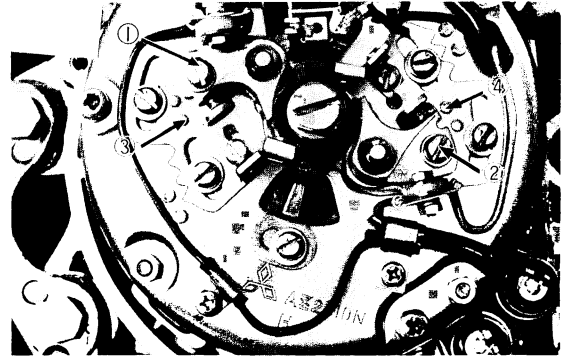

Fig. 5-2-3
- c. To gap the points, first rotate the engine until the ignition cam opens the points to their widest position. Slip a 0.4 mm feeler gauge into the gap. It must be a tight slip fit. If an adjustment is necessary, loosen the point lock screw (1 or 2) as shown in the Fig. 5-2-3, insert a screwdriver into the adjustment slots (3 or 4), and open or close the points until the feeler gauge indicates the correct gap. Retighten the lock screw and recheck the gap.